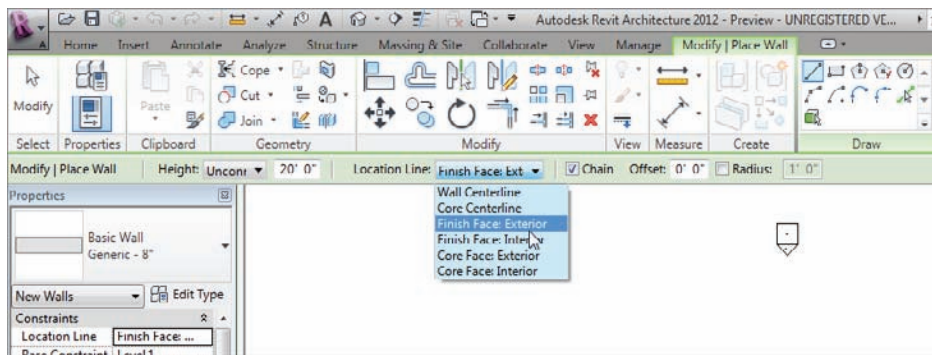

FIGURE 1.16 By selecting Finish Face: Exterior, you know the wall will be dimensioned from the outside finish.
2. Back in the Options bar, find the Location Line menu. Through this menu, you can set the wall justification. Select Finish Face: Exterior (see Figure 1.16).
3. On the Options bar, be sure the Chain check box is selected, as Figure 1.16 shows. This will allow you to draw the walls continuously.